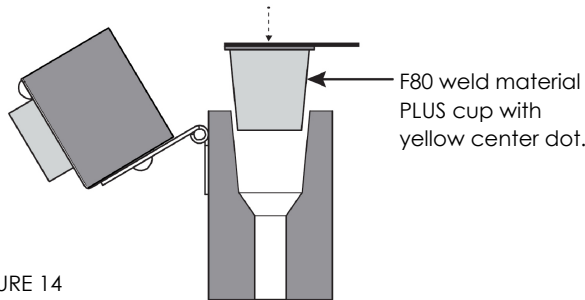

FIGURE 14
2. Insert nVent ERICO Cadweld PLUS welding material cup into mold. **See Figure 14.**